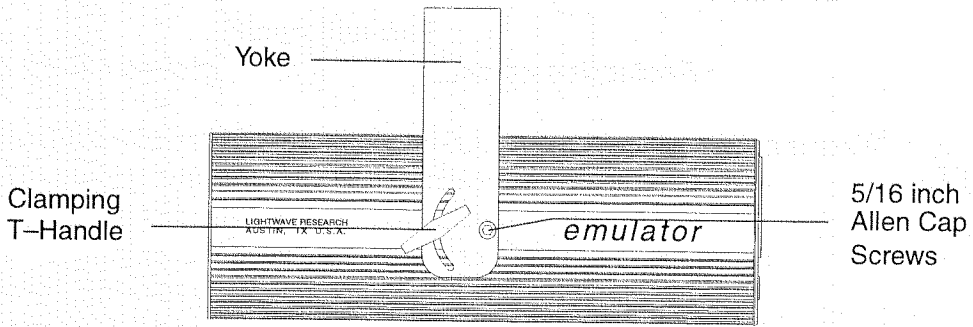

Figure 2.8. emulator Fixture — Side View
1. First, remove the two 8 mm (5/16 in) allen cap screw bolts and the two clamping T-handles from the fixture. Refer to Figure 2.8.